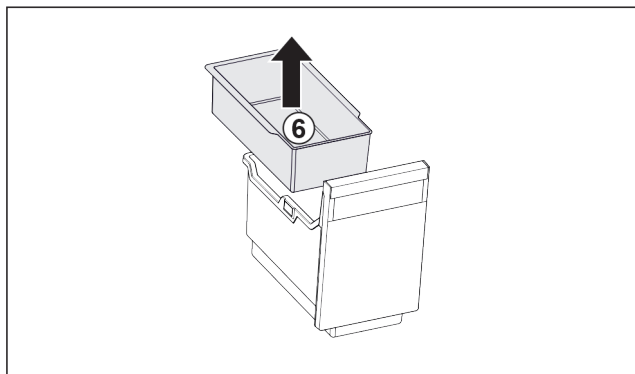

Fig. 118
- ▶ Remove the hang-on tray Fig. 118 (6).